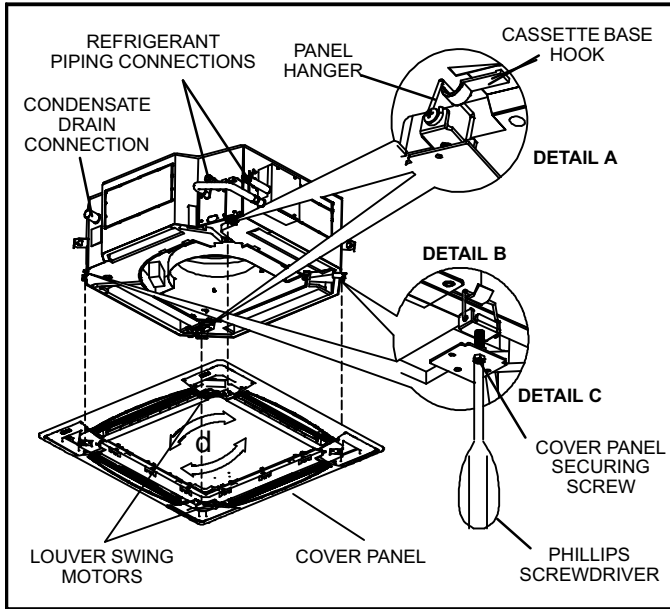

Figure 15. Install Cover Panel
- 5 - Locate the cover panel hangers on the two corners with the louver swing motors. Place these two hangers on the corresponding hooks on the corners of the cassette base. See detail A in figure 15. Then, place the other hangers from the other two corners over their corresponding hooks on the cassette base as shown in detail B in figure 15.
detail C in figure 15. Adjust the cover panel by turning slightly clockwise, if necessary, to make sure that the panel is properly aligned with the cassette base.